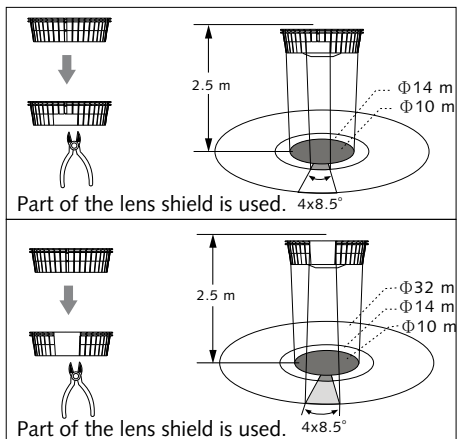

Fig. 20-B
- The shadow part of the lens shields in the Fig. 20-A & Fig. 20-B are referring to the cutoff parts.